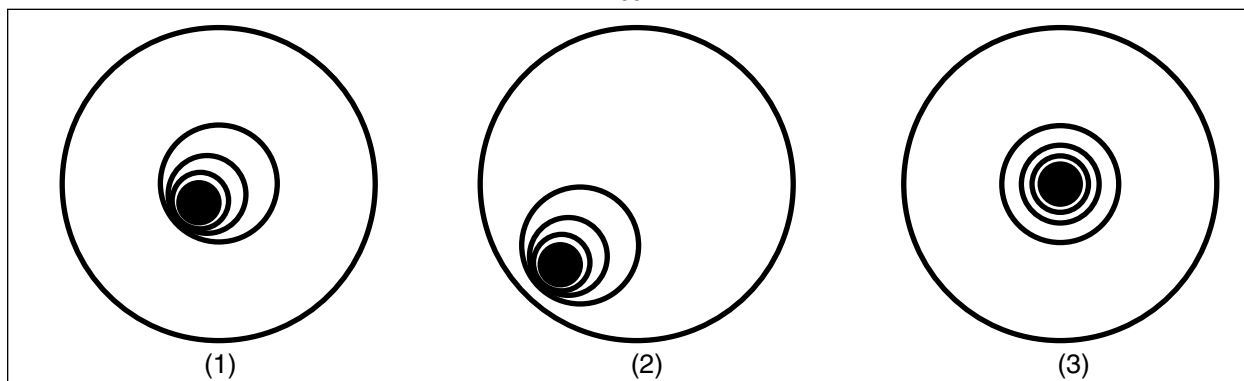

Fig. 27: De-focused Star Images.
- While looking at the de-focused star image and noticing which direction the darker shadow is offset in the ring of light or noticing which part of the ring is the thinnest (1, Fig. 27), place your index finger in front of the telescope so that it touches one of the collimation set screws. You will see the shadow of your finger in the ring of light. Move your finger (or an assistants finger) around the edge of the black plastic secondary mirror support until you see the shadow of the finger crossing the thinnest part of the ring of light. At this point, look at the front of the telescope where your (or your assistants) finger is aiming. It will either be pointing directly at a set screw, or it will be between two set screws aiming at the set screw on the far side of the black plastic secondary mirror support. This is the set screw that you will adjust.
- Using the telescope's slow motion controls, move the de-focused image to the edge of the eyepiece field of view (2, Fig. 27), in the same direction as the darker shadow is offset in the ring of light.
- f. When you bring the image to center (3, Fig. 27), carefully examine the evenness of the ring of light (concentricity). If you find that the dark center is still off in the same direction, continue to make the adjustment in the original turning direction. If it is now off in the opposite direction, you have turned too far and you need to turn in the opposite direction. Always double check the image in the center of the field of the eyepiece.